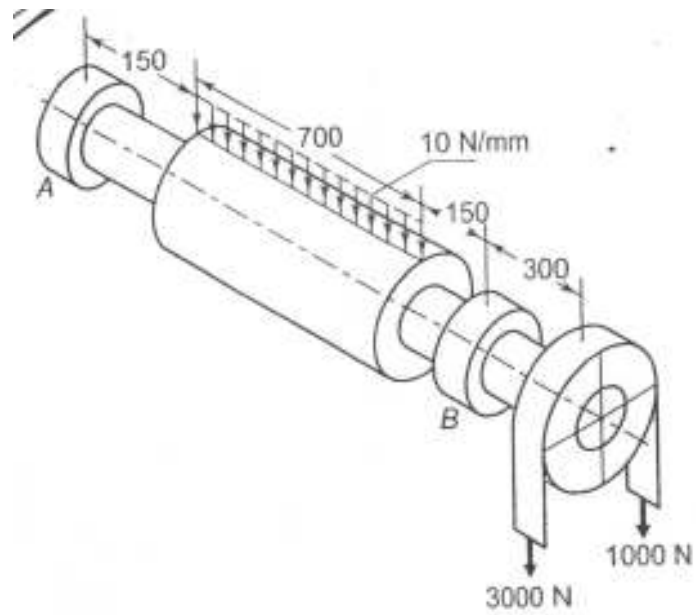

Fig No.1 Question 3(b)
- (b)** The armature shaft of a 40 kW, 720 r.p.m. electric motor mounted on two bearings are as shown in Fig.no.1.the total magnetic pull on the armature is 7 kN and it is assumed to be uniformly distributed over a length of 700 mm midway between the bearings. The shaft is made-up of steel with an ultimate tensile strength of 770 MPa and yield strength of 580 MPa.Determine the shaft diameter using ASME code if, $k_b = 1.5$ and $k_t = 1.0$ Assumed that the pulley is keyed to the shaft. **07**